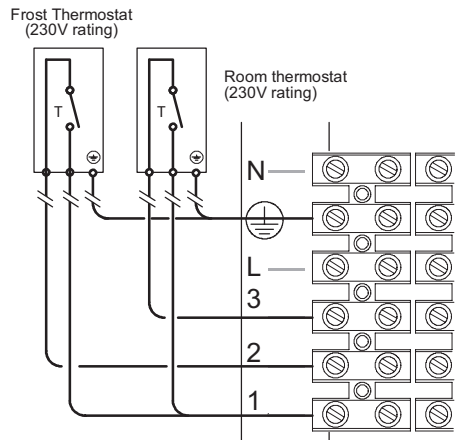
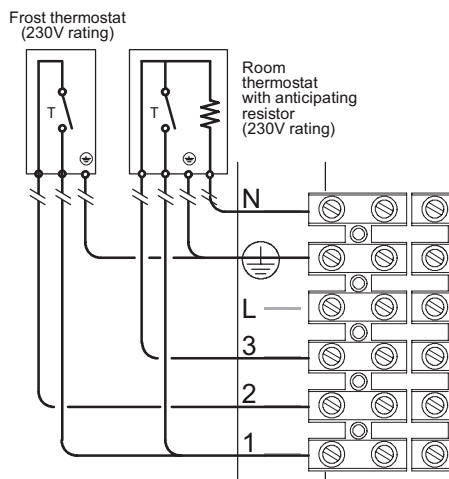

Fig. 6.24
Fig. 6.25
- Connect the frost thermostat between terminals 1 and 2 as shown in Fig. 6.24, Fig. 6.25 or Fig. 6.25.